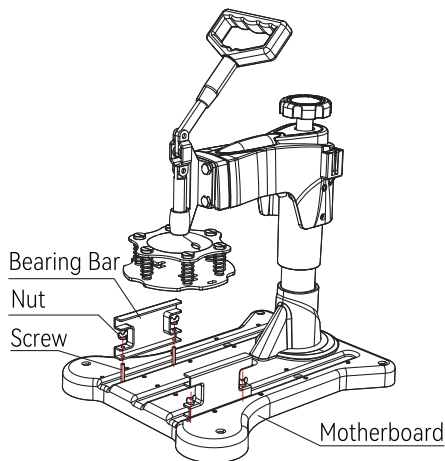

Fig 3
3. Use 4 screws from the bottom up, through the bearing bar from the back of the backplane, and then lock it with hand screws (as shown in figure 3).